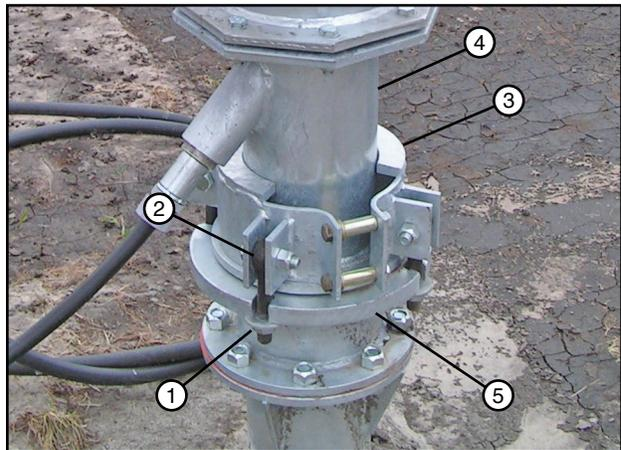

Figure 36-2 1. Hex Nut 4. Receiver Tube
9. Attach receiver tube to upper anchor with existing rod ends and hex nuts on anchor clamp. Tighten hardware completely. See figure 36-2.